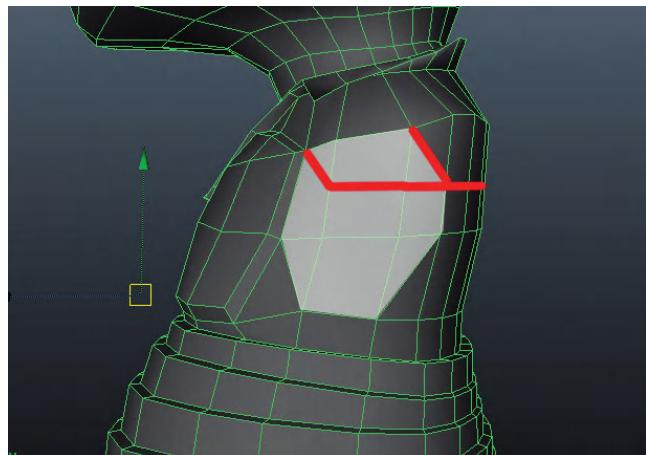

FIG 4.71 The area the arm will be built off of. Added edges highlighted.
The process of extruding out the arms uses almost identical techniques to what we've used. Take a close look at Fig. 4.71 though. The selected faces are the faces that we will delete to leave a ring of edges that the arm will be built from. The important idea is the number of faces (and edges) this will yield. If this was a single face, we would be stuck with a square-shaped arm and have to insert all sorts of edge loops to get any good shape. The nine polygons shown in Fig. 4.71 are carefully created and chosen, so we have a good number of edges to keep the arm round.
Step 89: Delete the faces shown in Fig. 4.71.